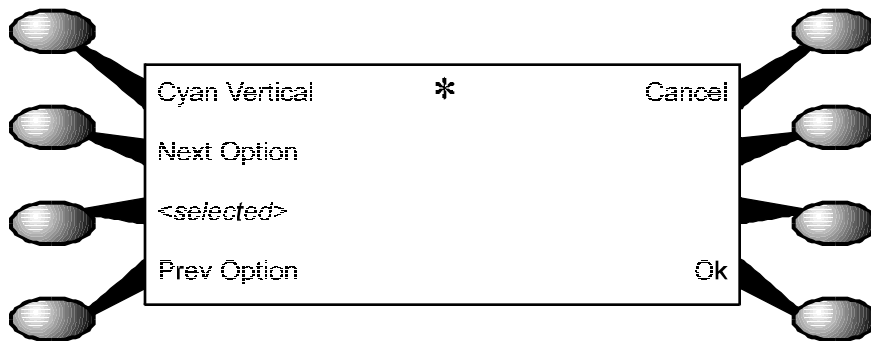

Figure 3-21. Cyan Vertical Options Menu.
4. When the plot is complete, select “Cyan Vertical” at the Color Calib Menu. This brings up the options menu for the cyan vertical adjustment as shown in Figure 3-21.
5. When the plot is complete, select “Deadband” at the Calibration Menu. This brings up the options menu for the fast deadband adjustment. This menu is similar to the menu depicted in Figure 3-21.
9. When the plot is complete, select “Slow Deadband” at the Service Menu. This brings up the options menu for the slow deadband adjustment. This menu is similiar to the menu depicted in Figure 3-21.
5. Select “Paper Axis” at the Calibration Menu. This brings up the options menu for the paper axis adjustment. This menu is similar to the menu depicted in Figure 3-21.